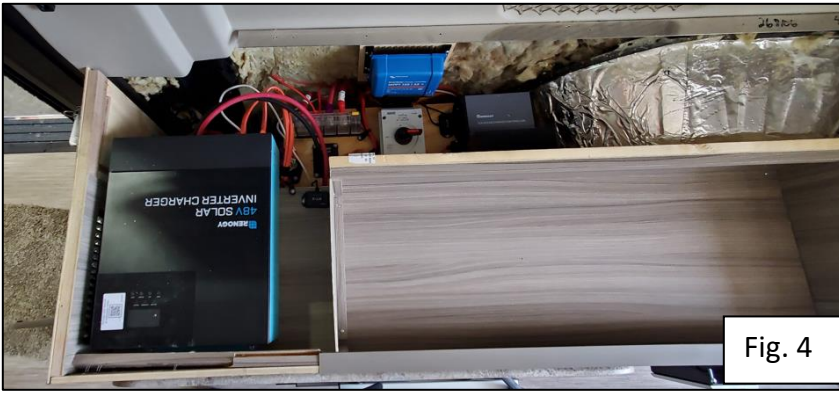

Fig. 4
- B. Promaster WT – With a screwgun and square bit (Figure 4):